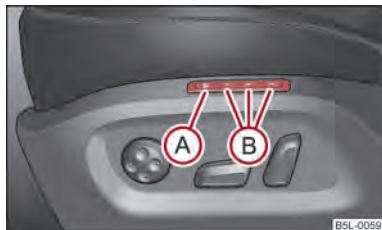

Fig. 46 Driver seat: Memory buttons and SET button
- Press button **SET** (A) ⇒ fig. 46.
- Press one of the memory buttons (B) within 10 seconds after pressing the button **SET** - an acknowledgement signal confirms that the seat setting is stored..
Memory for the seat offers the possibility to store the individual driver seat and external mirror position. An individual position can be allocated to each of the three memory buttons (B) ⇒ fig. 46, that is three in total. After pressing the corresponding memory button (B), the seat and the exterior mirror are automatically moved into the positions which have been allocated to this button ⇒ page 64.
- **By briefly pressing:** Briefly press the desired memory button (B) ⇒ fig. 46. The seat and exterior mirror are moved automatically into the stored positions (this applies only if the ignition is switched on and the speed is less than 5 km/h).
- **By pressing for a long period of time:** press and hold the desired memory button (B) pressed long enough until the seat and the exterior mirrors are moved into the stored positions.